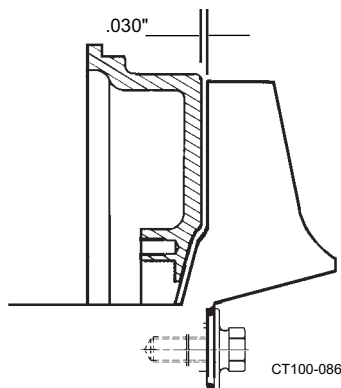

Figure 41 - Clearance Between Impeller and Backplate
22. See Figure 41. Check the impeller/backplate clearance with the backplate held firmly in position against the motor adapter. Check the space between the back of the impeller and the backplate with a feeler gauge (0.030" nominal) while holding the backplate tight against the bearing housing